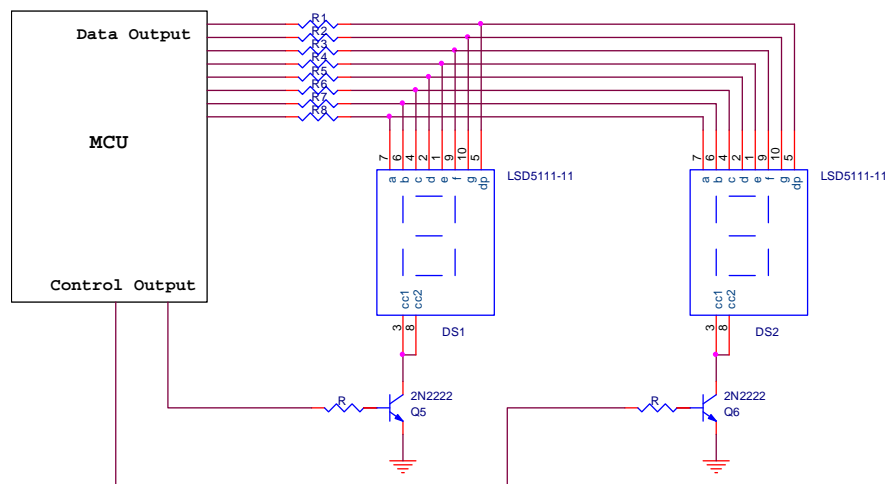

Figure 4, schematic for two 7-seg displays
1. Add a second 7-seg display and driver to your circuit as illustrated in Figure 4. With these two displays, let's apply a dynamic visualization technique that consist on the following steps: